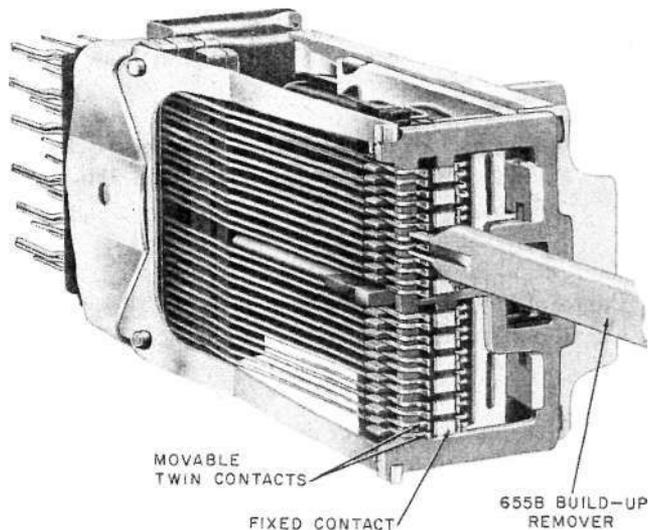

Fig. 38—Method of Removing Buildings on Fixed Contacts of AF-, AG-, AJ-, AL-, and AM-Type Relays (Wire-Spring Type)
(1) Insert the 655B build-up remover between the twin and fixed contacts with the twin contacts seated in the groove of the build-up remover as shown in Fig. 38. On normally closed contacts operate the relay manually,